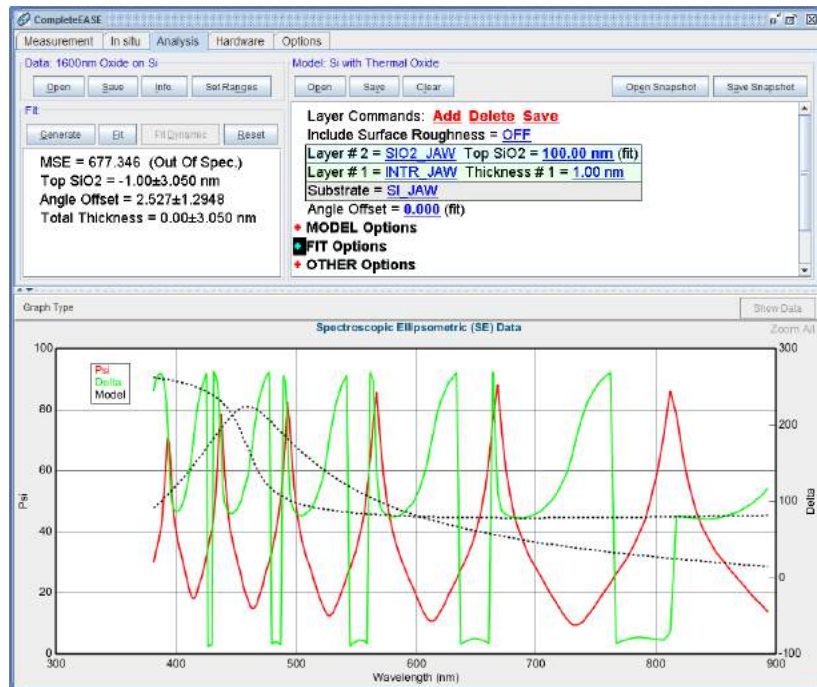

Figure 3-17. Data generated from “Si with Thermal Oxide” model, using default parameter values. The “Perform Thickness Pre-Fit” option is turned “OFF”.
One further concept will be demonstrated using “Si with Thermal Oxide” model. For this example, reload both the “Si with Thermal Oxide” model and the “1600nm Oxide on Si” example data file. From the **Model>+FIT Options** section, turn the “Perform Thickness Pre-Fit” option to “OFF” by clicking on the underlined blue value. Then press **Fit>Generate**. The screen should appear as shown in Figure 3-17. Note that the data generated by the model (black dashed curves) using the default thickness (100nm) does not match the experimental data. Now click the ‘Fit’ button: the data fit is still very poor, and the reported MSE is very high (677). This illustrates what happens if you start the fit with parameter values that are not reasonably close to their best fit values.